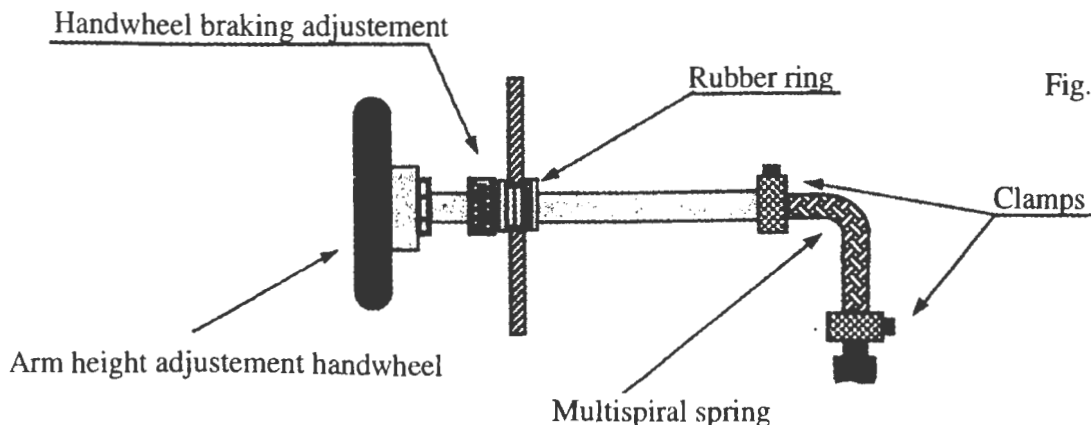

Fig. 4
- This fault increases the arm stroke. Gradually adjust the two nuts behind the knob (Fig.4) to increase the braking action that the compressed rubber plug exercises on the transmission pin.